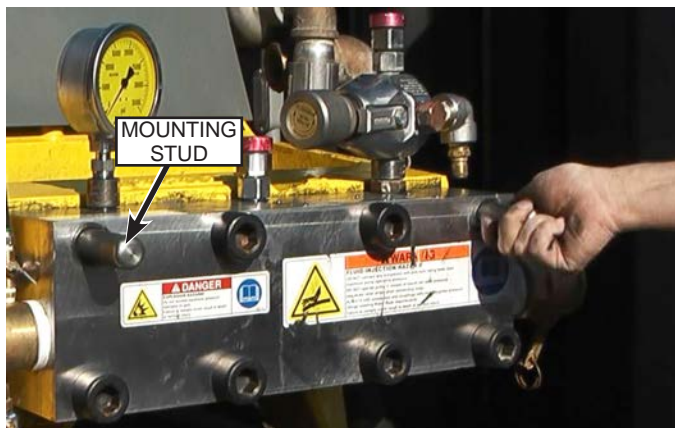

Fig. 46: Manifold Mounting Stud Installation
7. Install manifold mounting studs (Fig. 46) into the two open holes to allow for easier installation of the new manifold.